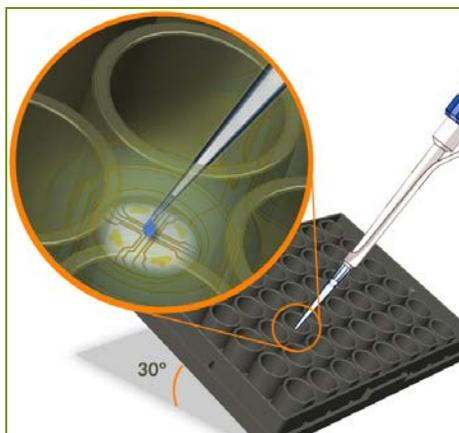

Figure 1: Droplet Placement
2. Tilt the MEA plate at an angle so that the bottom of each well is visible. Dispense a 5 µl/well droplet of fibronectin over the recording electrode area of the well of the MEA plate (Figure 1).
- Dispense a 5 μl /well droplet of the cell suspension (approximately 50,000 cells) over the recording electrode area of the MEA plate (Figure 1).
- Tilt the MEA plate at 30 degrees (Figure 1). Gently add 150 μl /well of 37°C Maintenance Medium down the side of the well of the MEA plate one row at a time using the 12-channel pipettor. Adding the medium too quickly will dislodge the adhered cardiomyocytes.